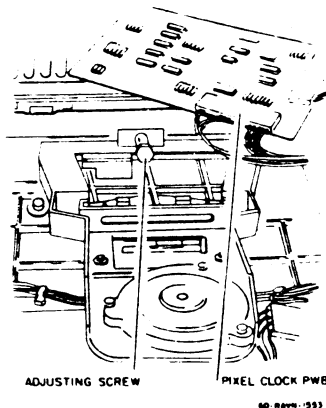

Figure 1. ROS Dust Cover Removed
4. PLACE PIXEL CLOCK PWB ON TOP OF LASER TUBE COVER AND RECONNECT VIDEO CABLE FROM MODULATOR DRIVER TO PIXEL CLOCK PWB (FIGURE 1).